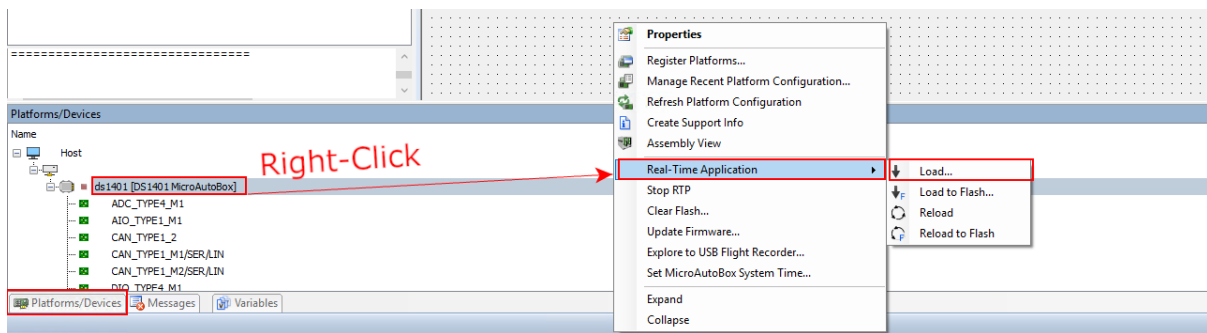
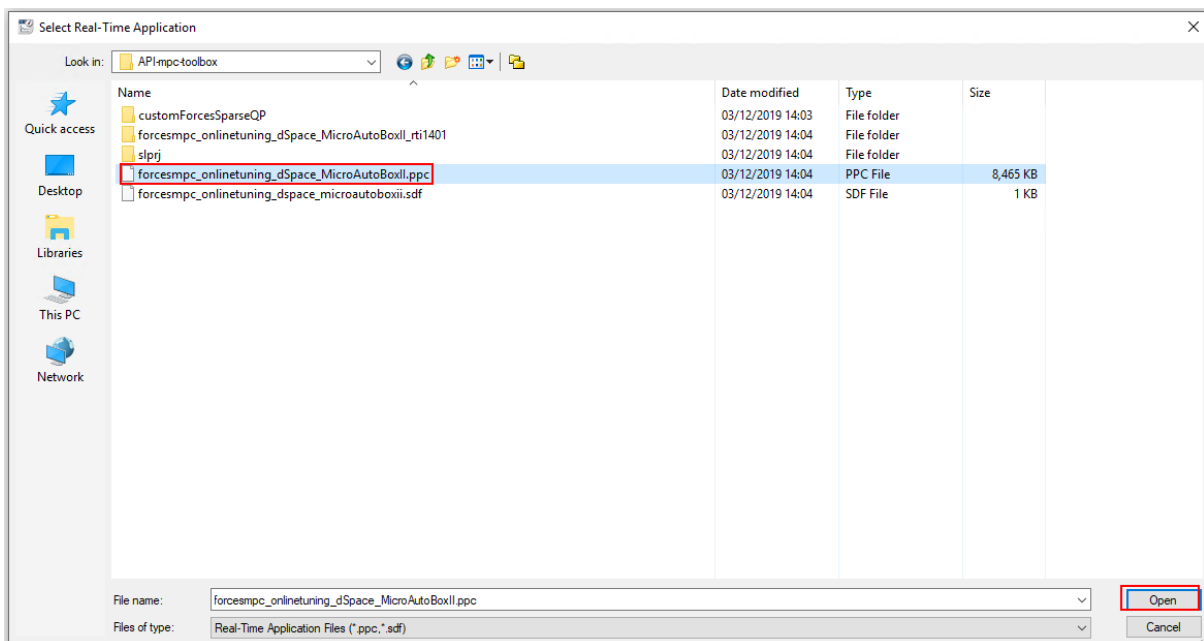

Figure 5.19: Load the application on the dSPACE MicroAutoBox II
Figure 5.20: Select the executable to run the experiment
- 15) Select the Platforms/Devices tab. Right-Click on your platform and select Real-Time Application> Load. Choose the executable file `forcesmpc_onlinetuning_dSpace_MicroAutoBoxII.ppc` (see Figure 5.19 and Figure 5.20).